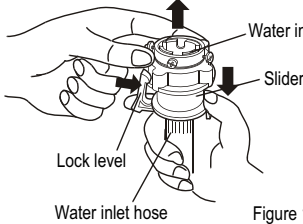
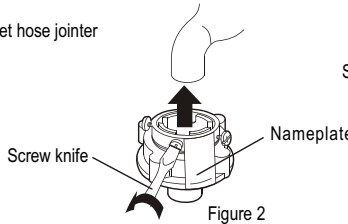
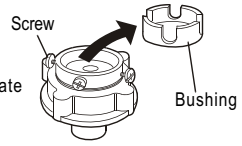

Figure 1
Figure 2
Figure 3
3. Put down the outer drain hose. Twist the drain hose nut counterclockwise to take it off as indicated in Figure 1. Take off the drain hose rack. Put the drain hose into the cabinet as indicated in Figure 2.
4. Dismount the protecting cover of the drain outlet at the other side as indicated in Figure 3.
1. Press the lower end of the lock lever and push down the slider. Take off the water inlet hose jointer from the water inlet hose component. See to Figure 1.
2. Loosen the four screws of the water inlet hose jointer till the water faucet can be accessed. Then set the water inlet hose jointer on the faucet. See to Figure 2. If the faucet is too large and the jointer cannot be set on, please loosen the four screws and take out the bush inside the jointer. See to Figure 3.